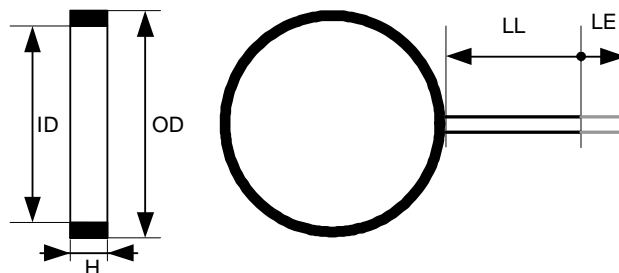

Fig. 1
5. MLX90125-CZA-A PHYSICAL SPECIFICATIONS (SEE FIG 1.) 3
7. MLX90125-CZA-B PHYSICAL SPECIFICATIONS (SEE FIG 1.) 4
9. MLX90125-CZA-C PHYSICAL SPECIFICATIONS (SEE FIG 1.) 4
5. MLX90125-CZA-A Physical Specifications (see fig 1.)
7. MLX90125-CZA-B Physical Specifications (see fig 1.)
9. MLX90125-CZA-C Physical Specifications (see fig 1.)